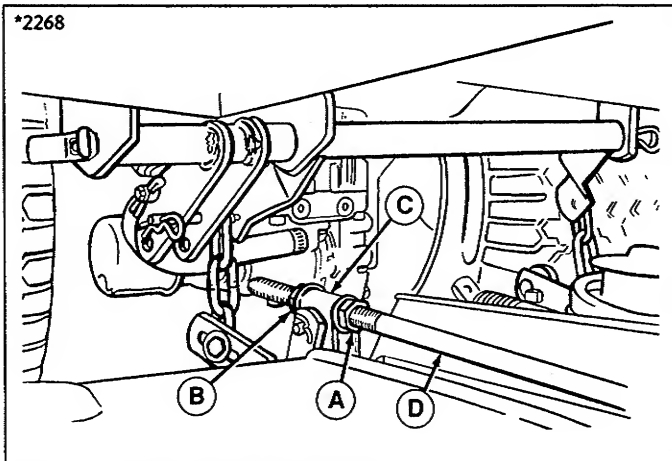

Figure 33. Front-To-Back Leveling
4. Turn the blades front-to-back. Measure the distance from the ground to front tip of center blade, and from ground to rear tips of left hand and right hand blades. Front tips should be $1/4"$ (6 mm) higher than rear tips. For adjustment, refer to figure 33.
- To raise front of mower deck, loosen front nut (A) and turn rear nut (B) against bracket (C) to shorten rod (D).
- To lower front of mower deck, loosen rear nut (B) and bracket (C) will move backwards to lengthen rod (D).
- Recheck measurement before tightening front nut (A) against bracket.